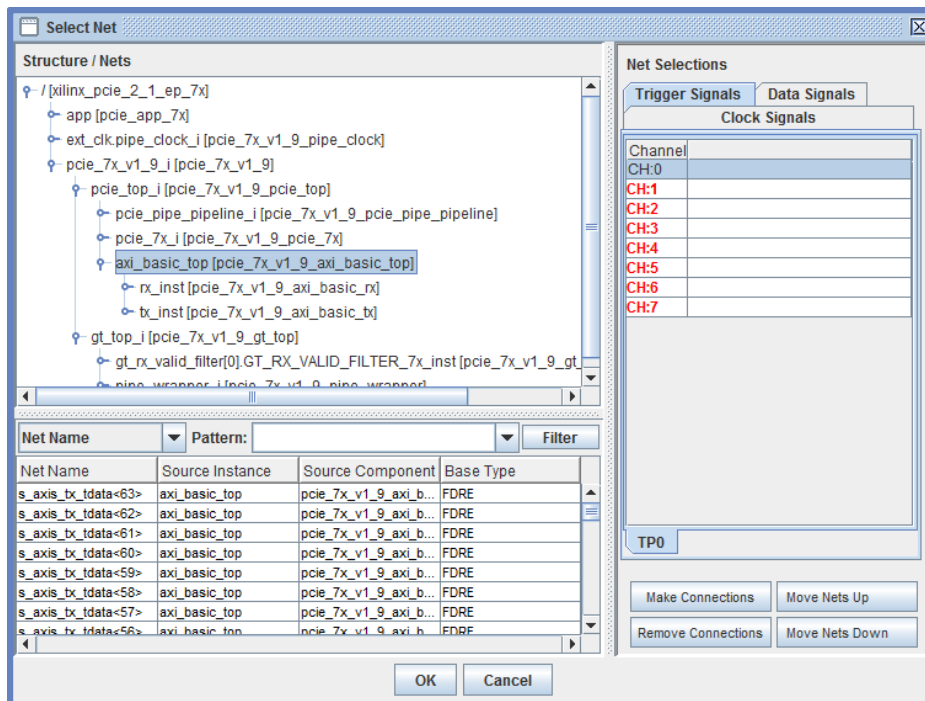

Figure 85: ChipScope Pro Inserter - Selecting Data Signals
- Click on the appropriate section of the structure hierarchy to select the signals (Figure 85).